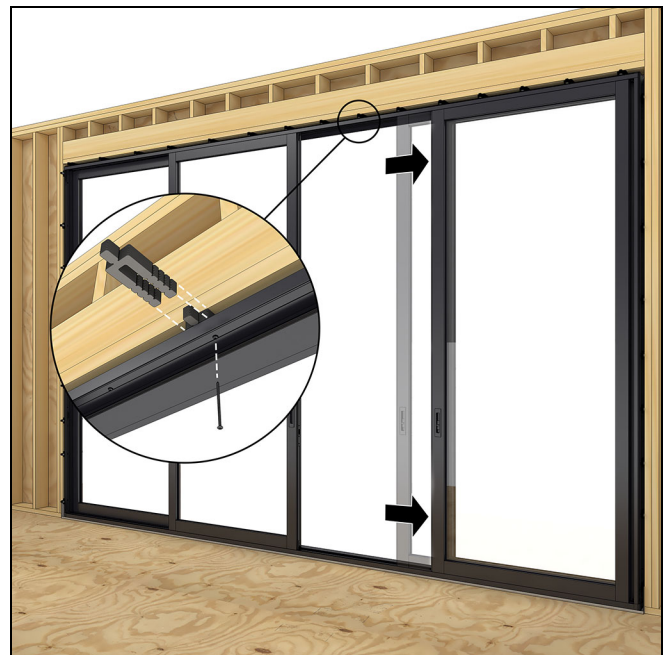

Figure 124
8. Unlock and open the (A) operator panel to access screw holes in the frame retainer. Shim, predrill with a 3/16" drill bit and drive #10 x 3" color matched screws into the rough opening. Be sure to shim near each screw location. See Figure 124.